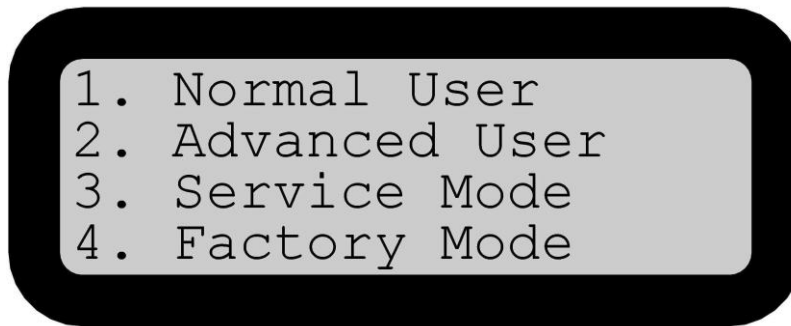

Figure 5-1 Start Menu
5.1.1. To enter the Start Menu, press the 'MENU' switch. The Start Menu shown in Figure 5-1 will be displayed, with further sub-menu options available.